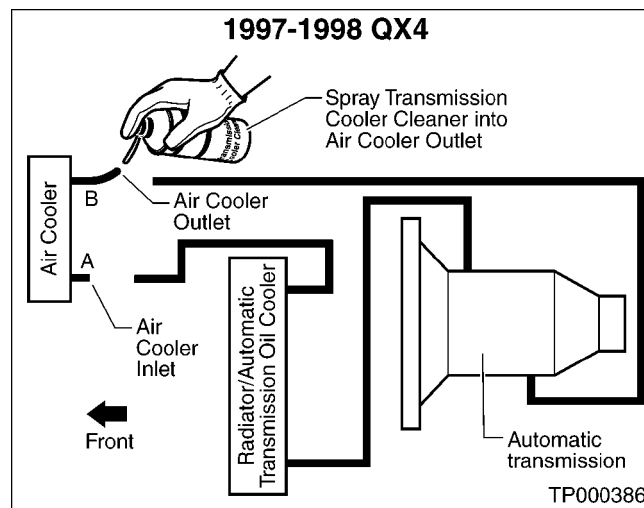

Figure 6
1. Place an oil drain pan under the A/T Air Cooler Inlet and Outlet hoses (see Points A and B, Figure 6).
2. Disconnect the Air Cooler Inlet and Outlet hoses from the Air Cooler (see Points A and B, Figure 6).
3. Insert the “extension adapter hose” from a can of Transmission Cooler Cleaner (Nissan P/N 999MP-AM006) into the Air Cooler Outlet hose (see Point B, Figure 6).
4. Hold the hose and can as high as possible. Spray Transmission Cooler Cleaner in a continuous stream into the Air Cooler Outlet hose until fluid flows out of the Air Cooler Inlet hose (Point A, Figure 6) for 5 seconds.